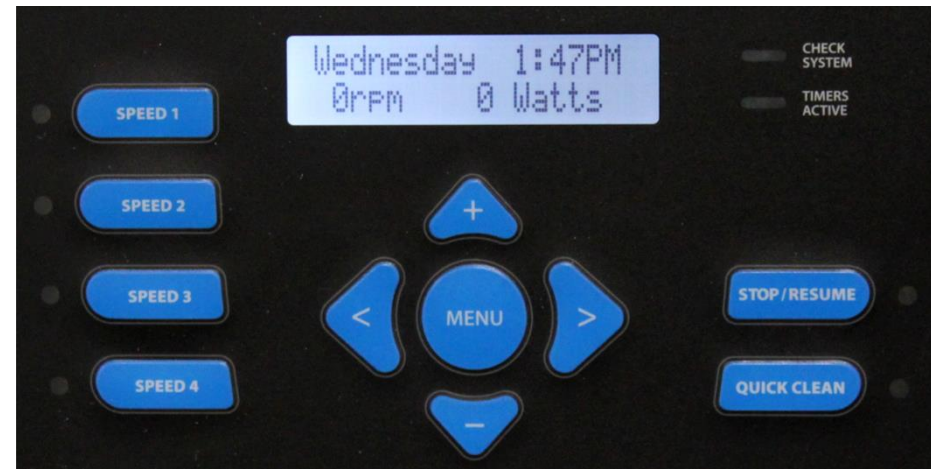

Figure 24
1. When power is supplied to the pump, the pump model will display, then the following screens (fig 24 & 25). Timer 1 will have default setting of 1750 RPM (50%), 7 days a week from 12:00 am – 11:45 pm.